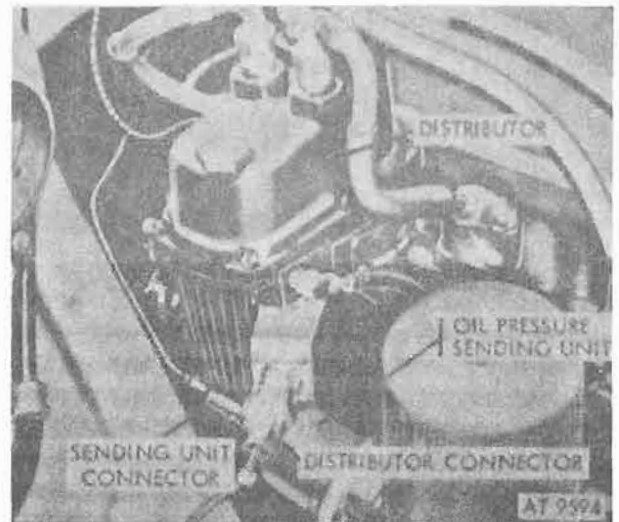

Figure 4-35. Oil pressure sending unit.
(28) Unscrew ignition distributor electrical connector from distributor. Disconnect oil pressure sending unit electrical connector (fig. 4-35).